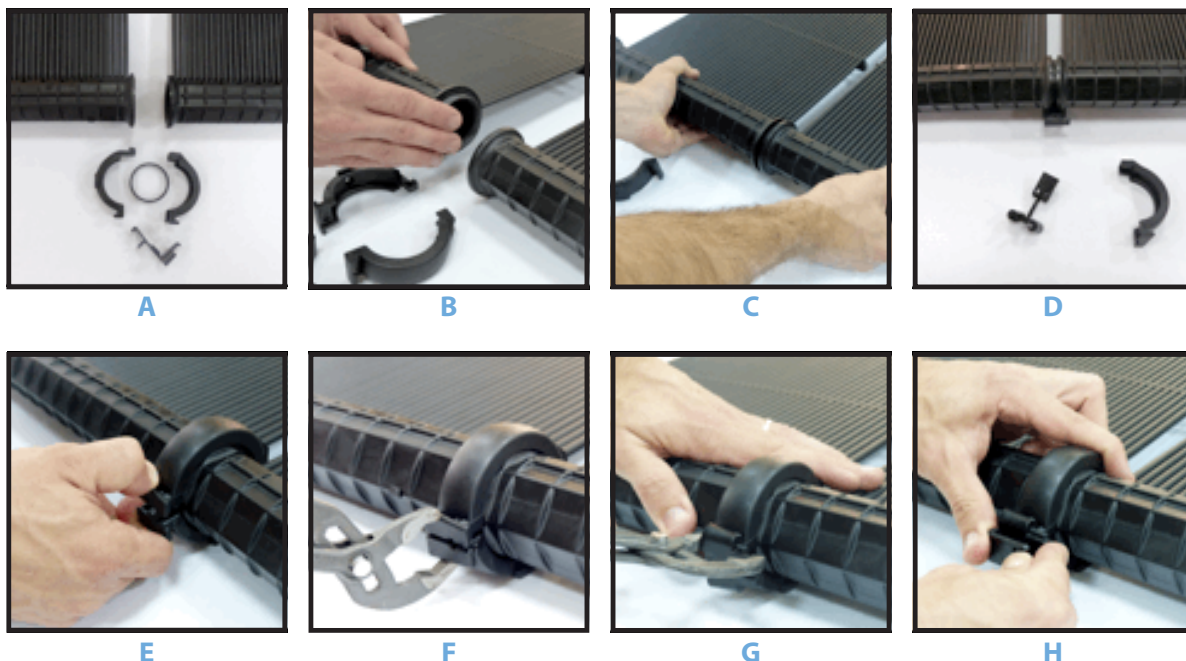

Fig. 7.1
1. Place two collectors next to each other. The spacer bars that hold the individual riser tubes together should be facing down. Lay a plastic panel clamp top, bottom, gasket and clip where the two headers meet. (Fig. 7.1-A)
3. Spray the gasket with silicone and insert it into the groove of one of the headers. Make sure that the gasket is fully seated into the header groove by pushing firmly with your thumb all the way around the gasket. (Fig 7.1-B)
4. Place the bottom half (see Fig. 7.1) of the plastic panel clamp (2-1810-004) under the collector header with the hook portion of the panel clamp on the inside of the collectors. (Fig. 7.1-C)
5. Seat both headers together by inserting the gasket into the opposite header groove and placing the ends of both headers into the open space in the panel clamp bottom. (Fig. 7.1-D)
6. Interlock the top half of the panel clamp with the hook on the bottom half. Swing top half over top of collector headers. Squeeze the top and bottom portions of the panel clamp together using channel lock pliers and lock both halves of the clamp together using the locking clip. (NOTE: Slide large end of locking clip over small end of plastic panel clamp assembly) (Fig. 7.1 - E & F)
7. Use channel lock pliers to tighten the clip grip by squeezing it with reasonable force until it seats flush or even slightly farther so it cannot slide out of its position. (Fig. 7.1-G)
8. Push the clip interlock to prevent locking clip movement. (Fig. 7.1-H)